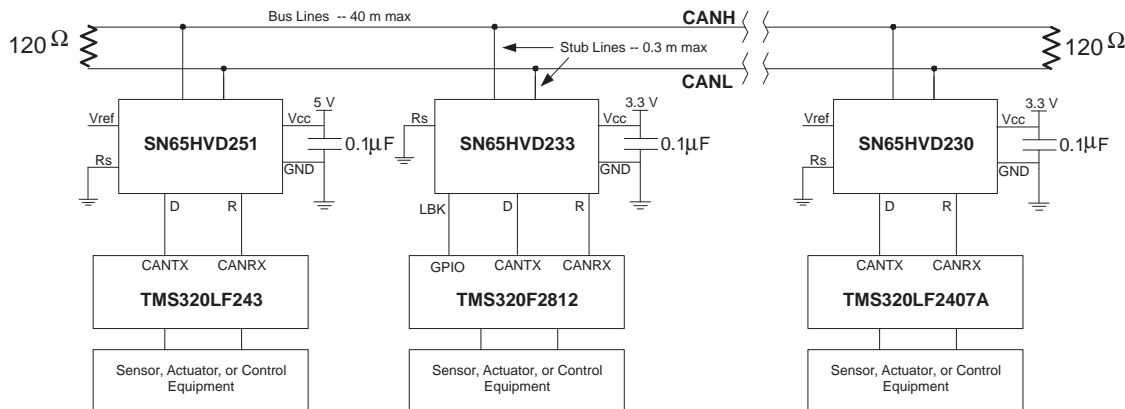

Figure 25. Typical HVD233 Application
The loopback function of the SN65HVD233 is enabled with a high-level input to LBK. This forces the driver into a recessive state and redirects the data (D) input at pin 1 to the received-data output (R) at pin 4. This allows the host controller to input and read back a bit sequence to perform diagnostic routines without disturbing the CAN bus. A typical CAN bus application is displayed in Figure 25.